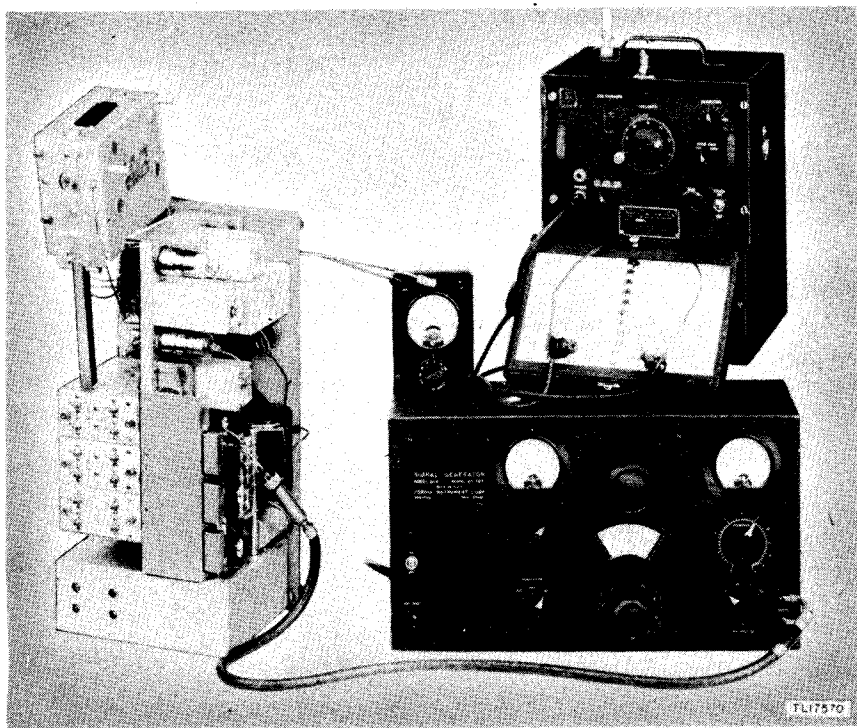
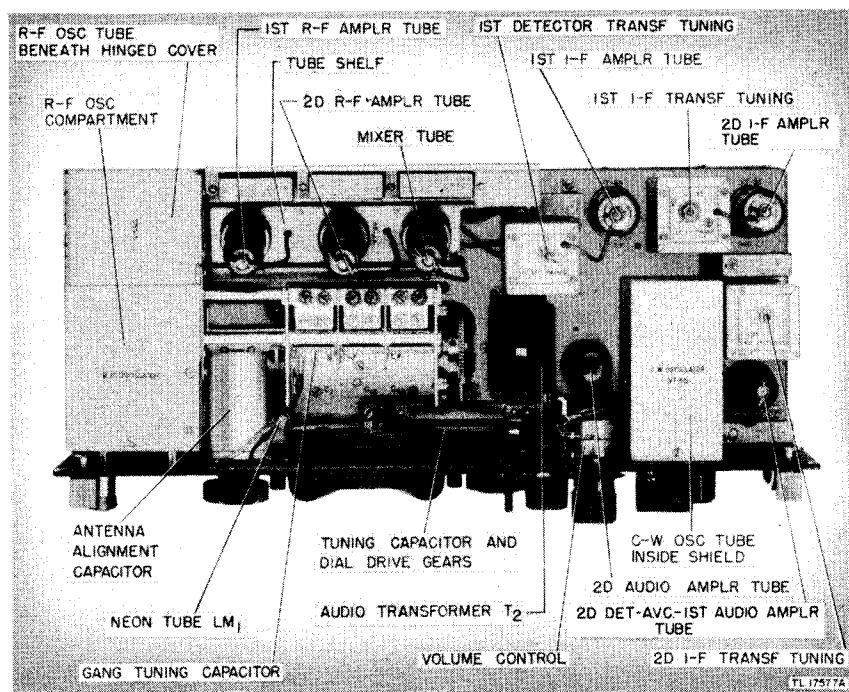

Figure 72. Typical test set up for receiver i-f alignment.
Figure 73. Receiver chassis, top view, showing alignment points.
a. PREPARATION. Set up the receiver and alignment equipment as shown in figure 72. Calibrate the signal generator for a 470-kc signal (h-f receiver models) or for a 92.5-kc signal (m-f receiver models). Remove the two screws from the top of the chassis that hold the dynamotor or rectifier in place. Remove the screw from the dynamotor or rectifier inner mounting hinge and swing the power supply assembly upward, securing it in position with a rack or a block of wood. Set the OFF-M.V.C.-A.V.C. switch to M.V.C., the CRYSTAL PHASING control to OUT (h-f models), the SELECT CONTROL at maximum (m-f models), the C.W.-OSC. switch to OFF, and the VOL control to maximum. Loosen the i-f transformer screw locknuts.
b. PROCEDURE. (1) Attach the signal generator ground lead to the receiver chassis and connect the dummy antenna (300-ohm resistor) between the grid cap of the second i-f amplifier tube and the output lead from the signal generator.
(2) Connect the output meter to the PHONES 2D AUDIO jack and adjust the signal generator output (modulated) to give a small deflection on the output meter, using the smallest scale possible.
(3) Adjust the second i-f transformer adjustment screws located on the top and bottom of the transformer (figs. 73 and 74) for a maximum output indication. Reduce the signal generator output whenever necessary during alignment to avoid overloading the receiver.
a. PREPARATION. Set up the receiver and alignment equipment as shown in figure 72. Remove the two screws from the top of the chassis that hold the dynamotor or rectifier in place. Remove the screw from the dynamotor or rectifier inner mounting hinge and swing the power supply assembly upward, securing it in position with a rack or a block of wood. Set the OFF-M.V.C.-A.V.C. switch to M.V.C., the SELECT CONTROL to maximum, the C.W.-OSC. switch to OFF, and the VOL control to maximum. Loosen the i-f transformer screw locknuts.
b. PROCEDURE. (1) Turn on the signal generator and the frequency meter and allow at least 15 minutes for them to warm up to insure frequency stability.
(2) Set the receiver tuning dial to any frequency on any band. For example: 200 kc.
(3) Plug the headset into the frequency meter and insert the end of a lead from the antenna post on the frequency meter into the receiver oscillator compartment (open hinged cover). Lay
(4) Tune the frequency meter to 92.5 kc above the frequency at which the receiver dial is set ($200 + 92.5$ or 292.5 kc if receiver is set at 200 kc). Then slowly tune the frequency meter dial back and forth, about 15 kc, until zero beat is heard in the headset.
(5) When zero beat is heard, check the frequency at which the frequency meter is set. If the frequency is not 92.5 kc above the frequency at which the receiver dial is set, adjust the receiver oscillator trimmer in small steps until a zero beat is heard in the frequency meter headset at *exactly* 92.5 kc above the receiver dial setting.
(6) When the r-f oscillator trimmer is finally adjusted to the desired frequency, tighten the locknut on this adjustment so that it cannot change. Disconnect the frequency meter but do not change the receiver dial setting.
(7) Calibrate the signal generator for the frequency at which the receiver dial is set (par. 83) and connect the output of the generator to the receiver antenna binding post through a 250- μ f capacitor dummy antenna. Connect the output meter to the PHONES 2D AUDIO jack.
(8) With the signal generator frequency set in accordance with instructions in (7) above, and with the generator output 30-percent modulated at 400 cycles, adjust each i-f adjustment screw to obtain a maximum output indication on the output meter. Adjust the second i-f transformer first, then the first i-f transformer, and finally the mixer transformer. Repeat adjustments if necessary to obtain a maximum output indication.
(9) With the r-f oscillator and i-f stages adjusted properly, the r-f amplifier stages should be aligned as described in paragraph 88 below.
a. PREPARATION. Set up the equipment as for the i-f alignment (fig. 72). Calibrate the signal generator for a 470-kc signal (h-f model) or for a 92.5-kc signal (m-f model). If a signal generator capable of producing a 92.5-kc signal is not available, proceed as outlined in paragraph 85 above to obtain the required intermediate frequency. Set the OFF-M.V.C.-A.V.C. switch to M.V.C. or A.V.C., and the C.W.-OSC. switch to ON. Turn the C.W.-OSC. ADJUST control so that the arrow is horizontal, pointing toward the right. Remove the capscrew above the C.W.-OSC. switch, permitting access to the c-w oscillator adjustment screw. Plug a headset or loudspeaker into the receiver output jack.
b. PROCEDURE. (1) Attach the signal generator ground lead to
a. PREPARATION. Set up the equipment the same as for the i-f stage alignment. (See fig. 72.) Calibrate the signal generator for a 470-kc signal. Set the OFF-M.V.C.-A.V.C. switch to M.V.C. and the C.W.-OSC. switch to ON. Connect a headset or loudspeaker and an output meter to the receiver output.
b. PROCEDURE. (1) Attach the ground lead of the signal generator to the receiver chassis and connect the signal generator